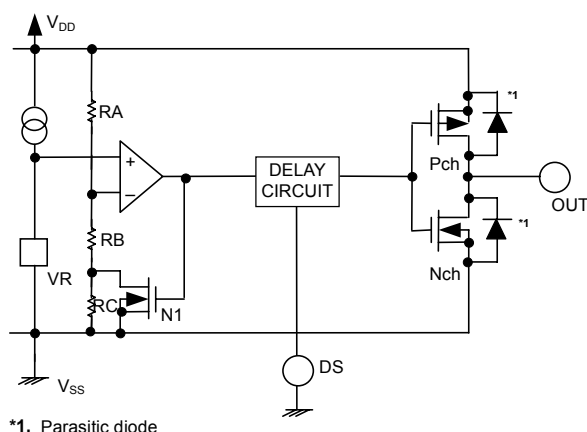
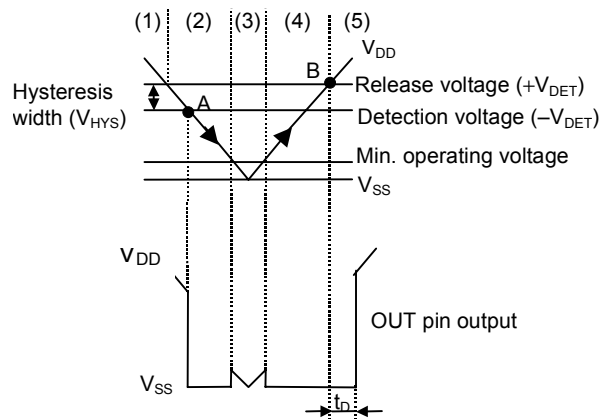

Figure 11 Operation 1
Figure 12 Operation 2
- (1) When the power supply voltage V_{DD} is higher than the release voltage $+V_{DET}$, the Nch transistor is OFF and the Pch transistor is ON to provide V_{DD} (high) at the output. Since the Nch transistor N1 in Figure 11 is OFF, the comparator input voltage is $(RB+RC) / (RA+RB+RC) \times V_{DD}$.
- (2) When the V_{DD} goes below $+V_{DET}$, the output provides the V_{DD} level, as long as V_{DD} remains above the detection voltage $-V_{DET}$. When the V_{DD} falls below $-V_{DET}$ (point A in Figure 12), the Nch transistor becomes ON, the Pch transistor becomes OFF, and the V_{SS} level appears at the output. At this time the Nch transistor N1 in figure 11 becomes ON, the comparator input voltage is changed to $RB / (RA+RB) \times V_{DD}$.
- (3) When the V_{DD} falls below the minimum operating voltage, the output becomes undefined, or goes to V_{DD} when the output is pulled up to V_{DD} .
- (4) The V_{SS} level appears when V_{DD} rises above the minimum operating voltage. The V_{SS} level still appears even when V_{DD} surpasses the $-V_{DET}$, as long as it does not exceed the release voltage $+V_{DET}$.
- (5) When V_{DD} rises above $+V_{DET}$ (point B in Figure 12), the Nch transistor becomes OFF and the Pch transistor becomes ON to provide V_{DD} at the output. The V_{DD} at the OUT pin is delayed for t_D due to the delay circuit.
The delay circuit delays the output signal from the time at which the power voltage V_{DD} exceeds the release voltage ($+V_{DET}$) when V_{DD} is turned on. The output signal is not delayed when the V_{DD} goes below the detection voltage ($-V_{DET}$). (Refer to Figure 12.)